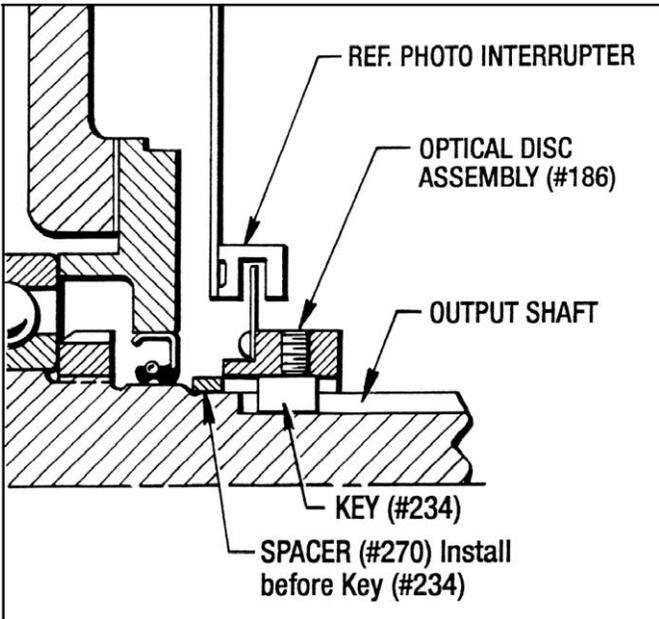

Figure 9.10 - Optical Disc and Hub Positioning
1. First slide the Spacer (#270) onto the output shaft as far as it will go. Install Key (#234), then slide the Optical Disc Assembly onto the output shaft, butting it up against the Spacer. (See *Figure 9.10*)
5. Attach the Disc Housing (#17) to the output end of the Posidyne with the (4) Screws (#76).
7. Carefully insert the Circuit Board (#355) into the top of the Disc Housing making sure the (3) Photo Interrupters straddle the Optical Disc. (See *Figures 9.10 and 9.11*)